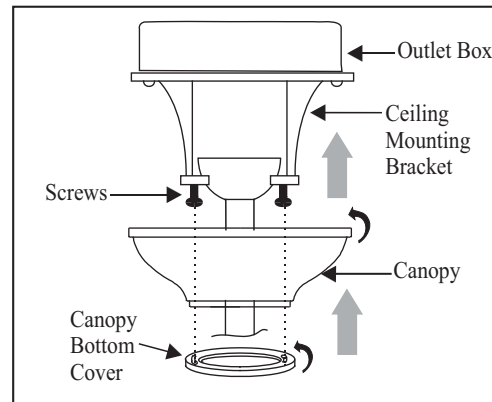

Figure 14
2. Slide the canopy up to ceiling and over the 2 screws on the hanger bracket. Rotate canopy clockwise. Next, while holding the canopy with one hand, slide the canopy cover over the screws and rotate clockwise until tight. **Note:** adjust the canopy screws as necessary until the canopy and canopy cover are snug. (Fig. 14)